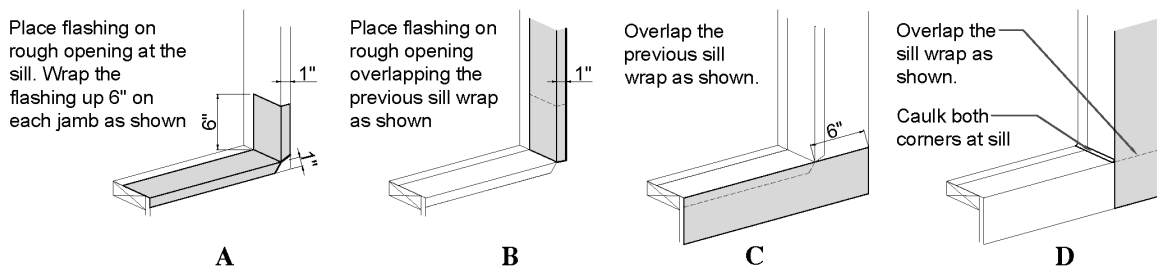

Figure 1.2
Place flashing tape (B) over the inside overlapping first tape by 1". See Figure 1.2
Place flashing tape that overlaps the exterior lap from the starting flashing from step 1 above. See figure 1.2 (C) below. Repeat at sides then the top.